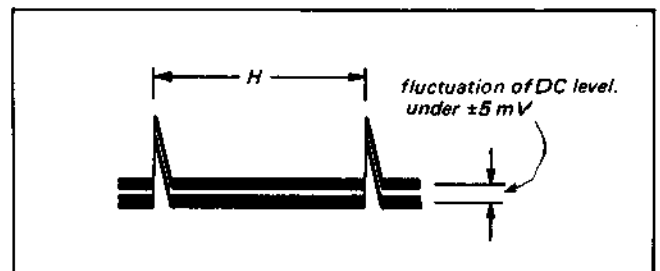

Fig. 5-27. AFC offset adjustment
- i) Adjust RV006 so that the fluctuation of DC level is minimum. (See Fig. 5-27.)
- ii) Confirm item 12).